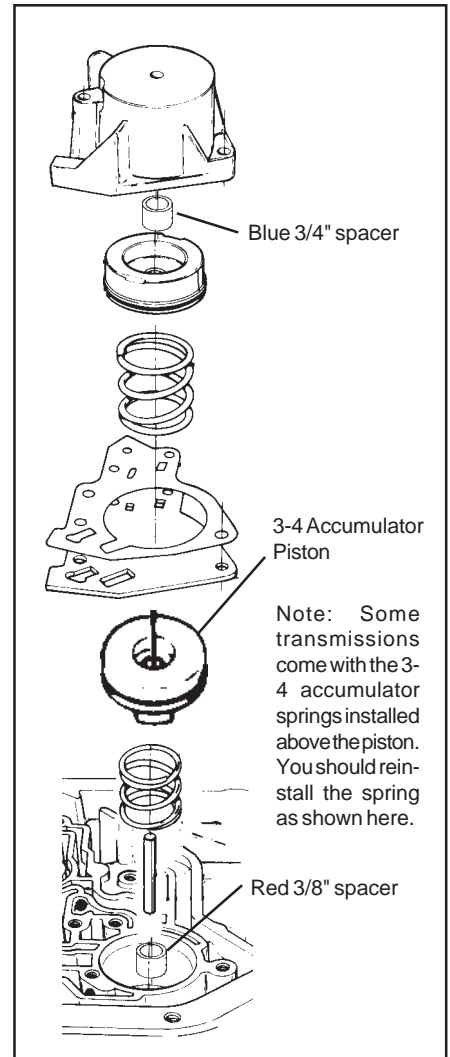

Fig. 10. Street Level Accumulator Assembly Order.
STEP 12. Street Level Only; Insert the 3-4 accumulator pin in the case. Over the pin place the **Red** (3/8") spacer, spring and accumulator piston. Use a dab of grease or petroleum jelly to hold components in place (See Fig. 10.)
STEP 15. Street Level Only; Remove the spring and piston from the 1-2 accumulator housing (See Fig. 10.) and install the **Blue** (3/4") spacer over the guide pin. Install piston and spring into 1-2 accumulator housing in reverse order of removal. With the spacer installed it will be necessary to compress the accumulator spring when installing the accumulator assembly. To help keep the separator plate and gaskets aligned thread 5 or 6 bolts into the case at various positions. Place gasket on accumulator housing then hold the 1-2 accumulator assembly up to the case. As an assembly aid use two of the long valve body bolts as guides while compressing the accumulator spring. To avoid stripped threads make sure bolts are fully engaged before attempting to